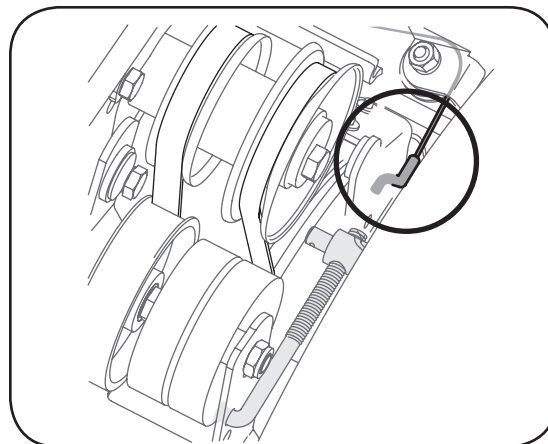

Figure 27
6. Pull the brake bracket assembly towards the cable guide roller and unhook the auger cable "Z" fitting. See Figure 27.